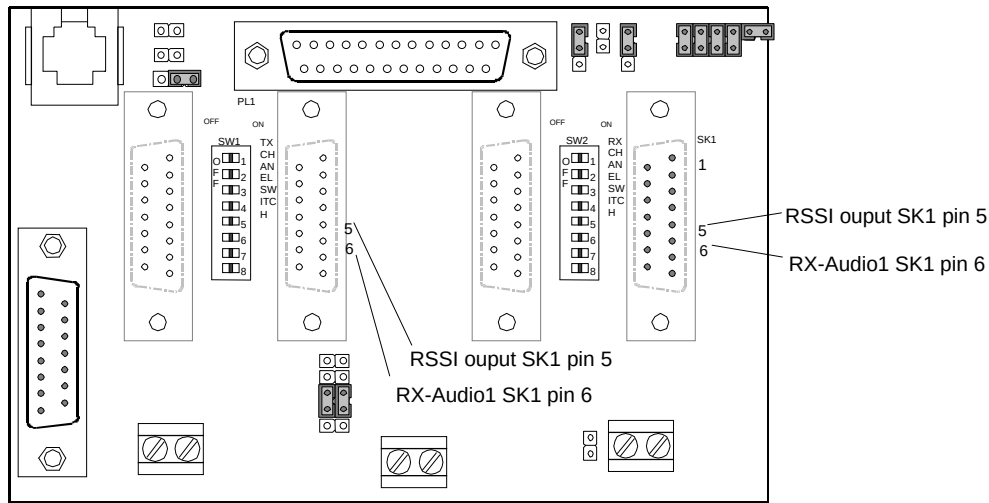

Figure 24 - T800-50-0001 Backplane
- Caution: mis-adjusting RSSI may reduce the Paragon^{PD+}'s Parallel Decode (PD) performance.
- Adjust RV 345 (RSSI level) for T885, RV320 (RSSI level) for T855 to give 2.0V RSSI output at SK330 pin 2 (T855) or on backplane SK1 pin 5 when measured with a voltmeter (See Figure 24 for test point location).
- Adjust RV320 (RSSI level) to give 4.5V RSSI output at RSSI test point (near quad. Coil L360) or on backplane SK1 pin 5 when measured with a voltmeter (Figure 24 - T800-50-0001) for test point location).